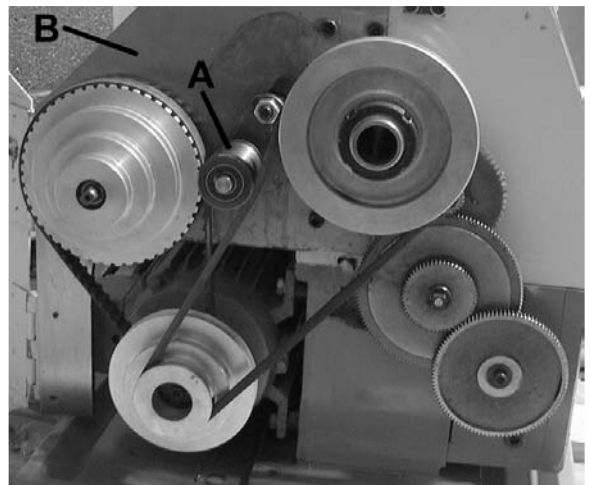

FIGURE 19
A tensioner (A) Fig.19 is supplied to tension the belt. Once the belt is in position, lower the tensioner against the belt and apply necessary tension. Lock tensioner in place using open end key supplied to lock hex. nut behind support plate (B). Make sure the tensioner does not come in contact with any other part of the pulley or belt before locking it into place.